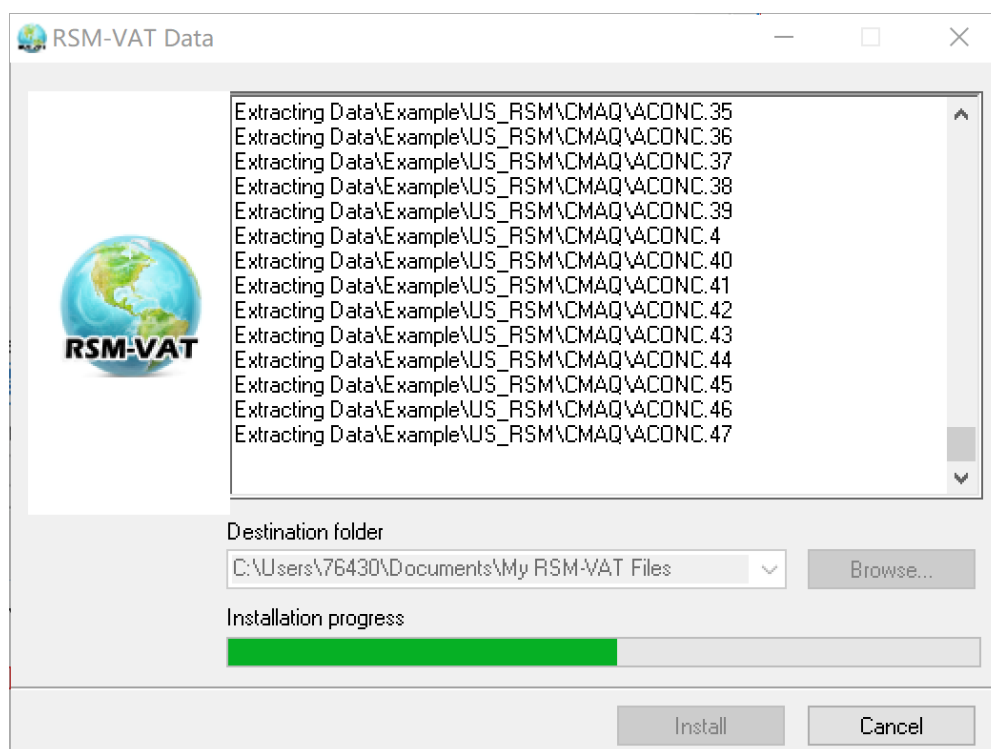

Fig. 7 Unzip Processing
- Click the **“Install”** button, Fig. 7 shows the unzipping process of the example data.